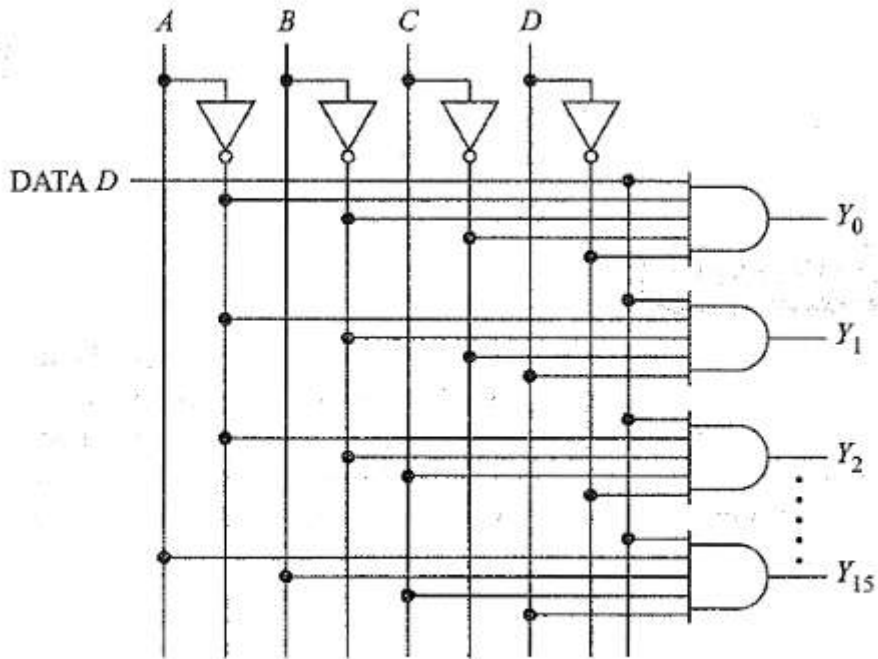

Fig. 4.10 1-to-16 demultiplexer
- Figure 4.10 shows a 1-to-16 demultiplexer. The input bit is labeled D . This data bit (D) is transmitted to the data bit of the output lines. But which one? Again, this depends on the value of $ABCD$, the control input. When $ABCD = 0000$, the upper AND gate is enabled while all other AND gates are disabled.